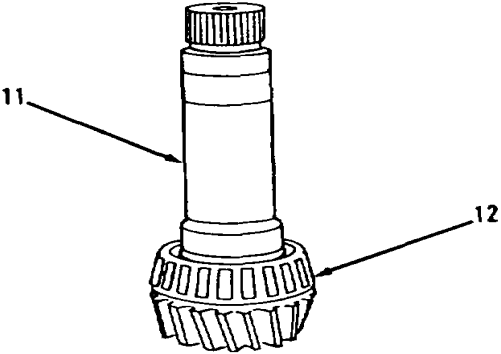

Figure 14-143.
- 11. Heat cone bearing (12) in oil to 275 degrees F and install on shaft (11, Figure 14-143).